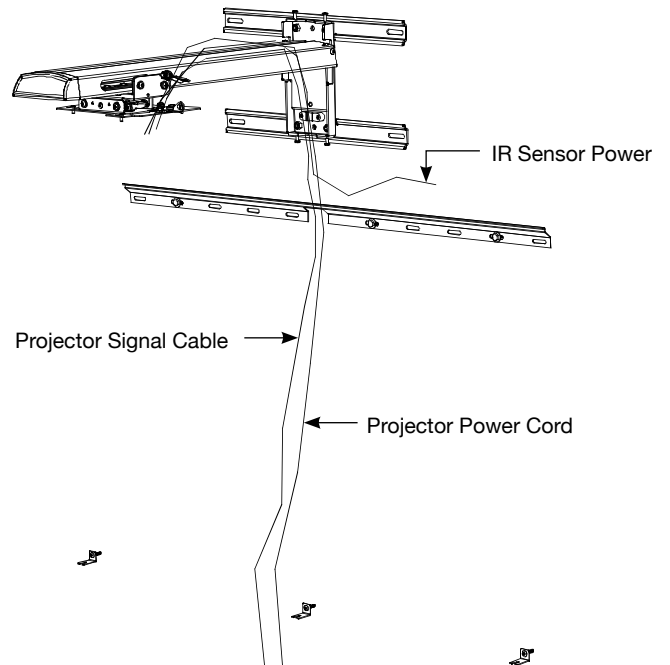

Figure 5
12. Run cables for projector up through hole in wall bracket and cover to projector location (Figure 5).